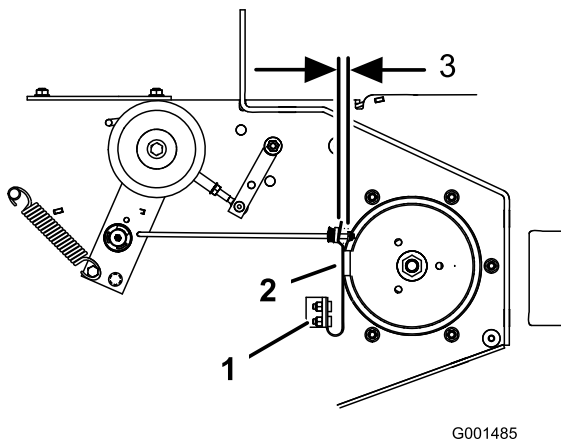

Figure 60
3. If necessary, adjust the spring mounting bolts so that the blade-brake pad rubs against both sides of the pulley groove (Figure 60).
4. Adjust the nut at the end of the blade brake rod until there is 3 mm to 5 mm (1/8 to 3/16 inch) between the nut and the spacer (Figure 60).